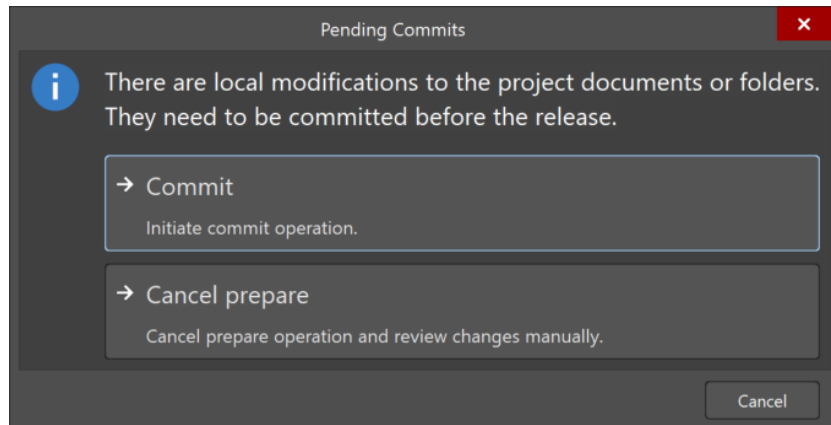

Figure 4. Reminder to commit modifications
14. If you missed to commit modifications you have done so far (**Save to Server**) the tool will show you the *Pending Commits* dialog, Figure 4. If you see the message, select **Commit** to proceed.